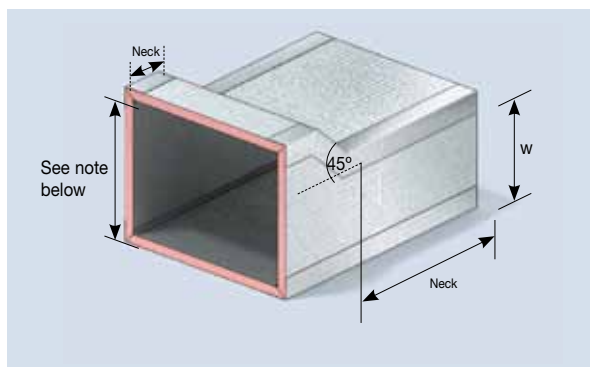

Figure 7.2 Boot Branch Design
- the larger end of the boot branch should be sized in accordance with relevant guidance (see Figure 7.2).